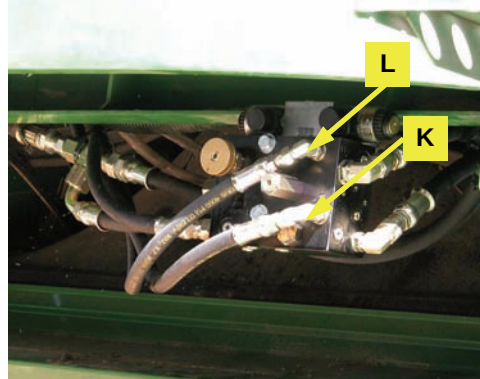

Figure 6b: Steering hoses at steering block
- b. Connect the straight ends of **L** and **K** to the fittings in the **A** and **B** ports of the hydraulic steering block (Figure 6b).